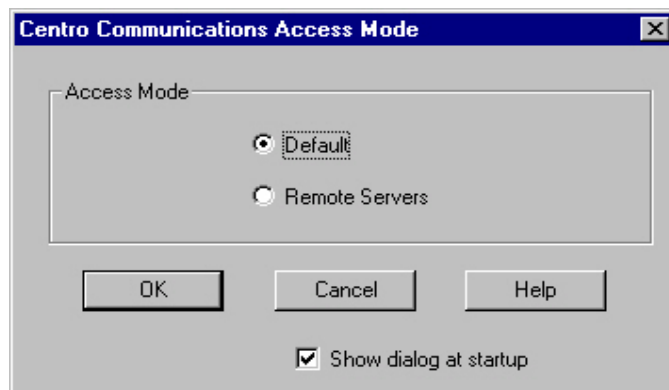

Figure 12. Centro Communications Access Mode Dialog Box
2. In the Centro Communications Access Mode dialog box (see Figure 12), do one of the following: